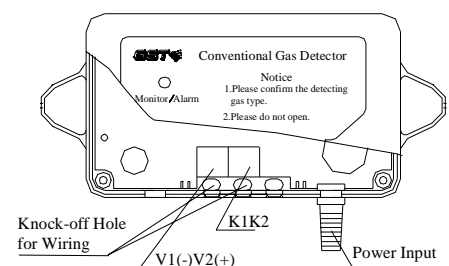

Fig. 3 Terminals
2. Terminals are shown in Fig. 3.